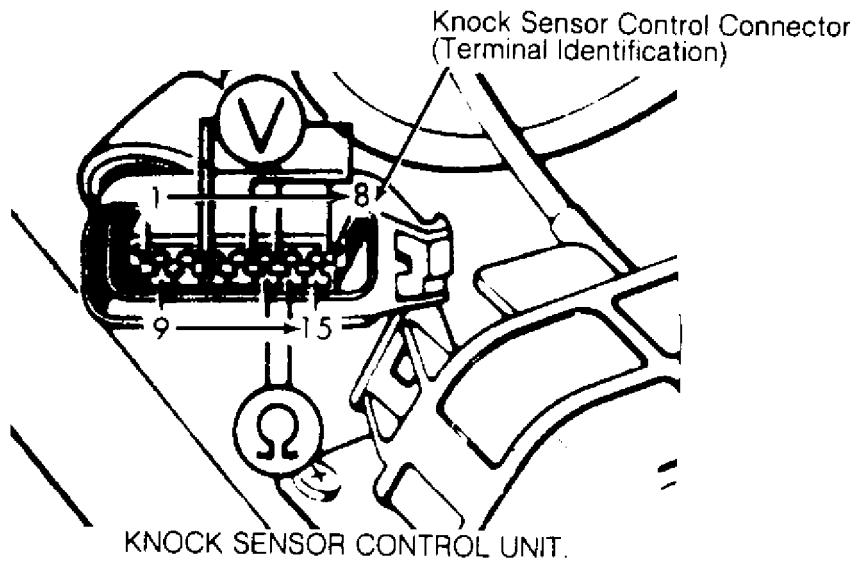

Fig. 13: Identifying Knock Sensor Control Unit Terminal
2) If voltage does not drop to zero volts, check throttle valve switch (full throttle). Check voltage between terminals No. 8 and No. 3, while fully opening throttle valve. If battery voltage was not present when throttle fully open, replace throttle valve switch. See Fig. 13.